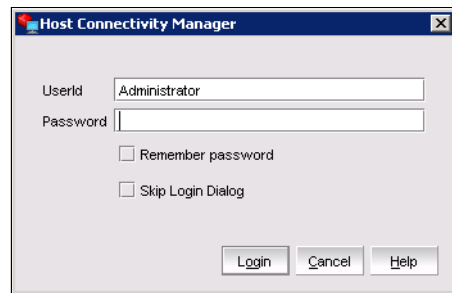

Figure 7-100 Host Connectivity Manager window
1. Start the Brocade software. In the Host Connectivity Manager window (Figure 7-100), use the default login of Administrator and a password of password. Then click **Login**.